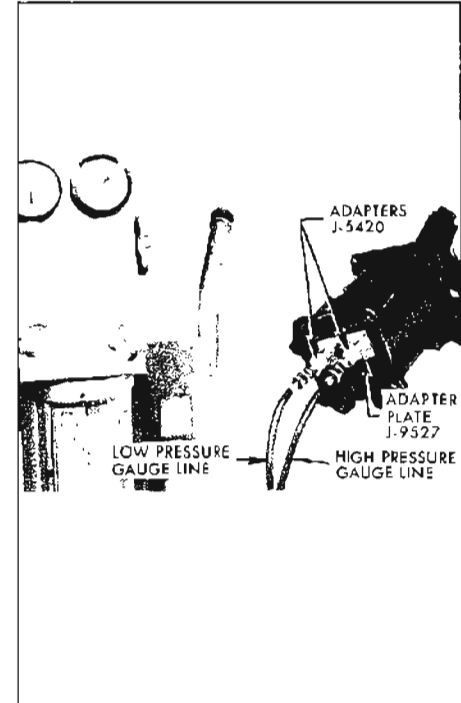

Figure 11-115—Charging Compressor to Check for Leaks
5. Attach charging line Adapter Plate J-9527 on rear of compressor and pressurize suction side of compressor with Refrigerant-12 at pressure corresponding to room temperature. Rotate compressor shaft several times. See Figure 11-115. Leak test with